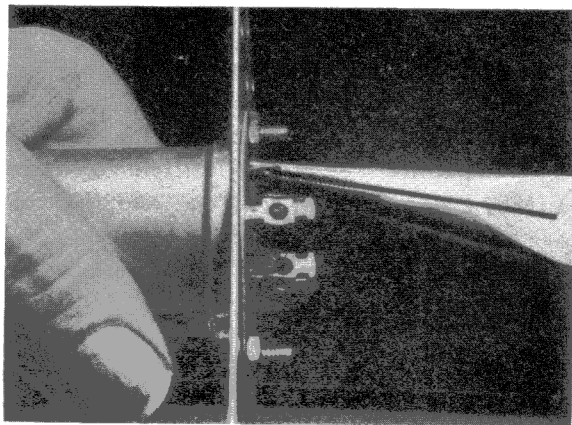
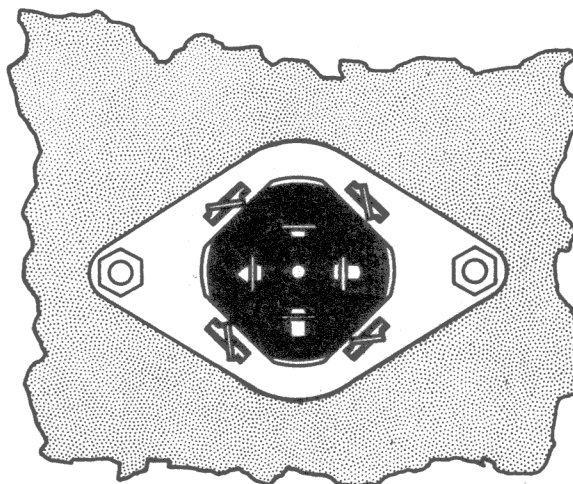

Fig. 18-4
Fig. 18-5
Step 6. In this step, you must hold the capacitor firmly against the capacitor ring, so that the capacitor does not slip out of the ring as you turn the chassis on its end. Then, still holding the can firmly against the mounting ring with one hand, with a pair of pliers held in the other hand, twist each of the mounting lugs, as shown in Fig. 18-4. Be sure that you twist the mounting lugs and not the terminal lugs. Figure 18-5 shows the bottom view of the capacitor that has been properly mounted.